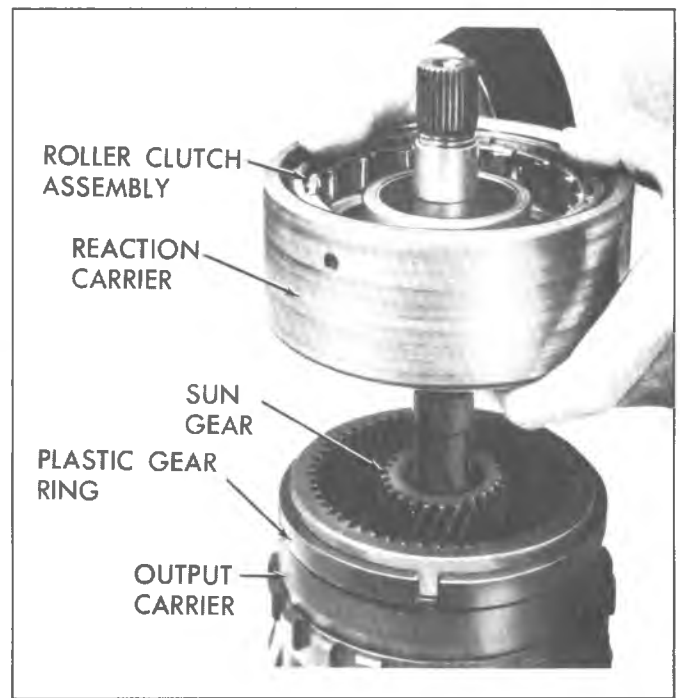

Fig. 41T--Removing Reaction Carrier and Roller Clutch from Output Carrier
4. Remove reaction carrier and roller clutch assembly (fig. 41T). Lift roller clutch assembly out of carrier.